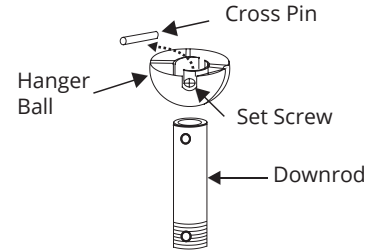

FIG. 8
1. Take out the set screw located in the hanger ball, lower the hanger ball and remove the cross pin. Remove the hanger ball from the hanger ball/downrod assembly (FIG. 8).